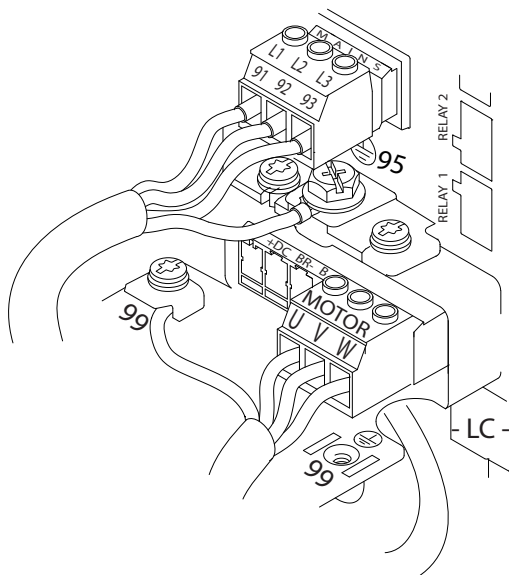

Figure 4.6 Example of Motor, Line Power and Ground Wiring
Figure 4.6 represents line power input, motor and grounding for basic adjustable frequency drives. Actual configurations vary with unit types and optional equipment.
1. Connect the 3-phase AC input power wiring to terminals L1, L2, and L3 (see *Figure 4.6*).